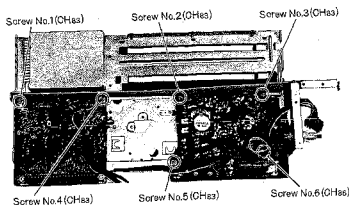

Fig. 19
6. Remove the four (4) PC board screws (nos. 2, 3, 5 & 6), as shown in fig. 19.
6. Remove the two (2) PC board screws (nos. 1 & 4), as shown in fig. 19.